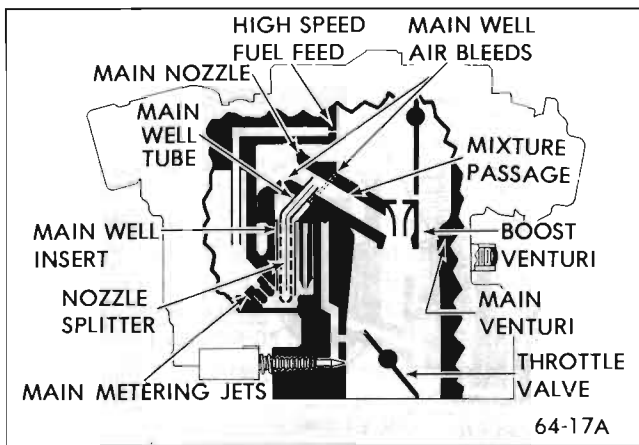

Figure 64-17A - Main Metering (High Speed) System - 45000 Series
An additional fuel circuit has been provided which supplements the main metering system of the carburetor unit. In order to provide sufficient enrichment to the part throttle system at higher air flows, two additional fuel feeds are located in the air horn just above the choke valve. They connect directly to the fuel in the float bowl, through channels which lead directly into a tube that extends into the fuel just above the main metering jets. At approximately eight (8) pounds of air per minute and above the extra fuel enrichment is added to supplement the main metering system. See Figure 64-17A.